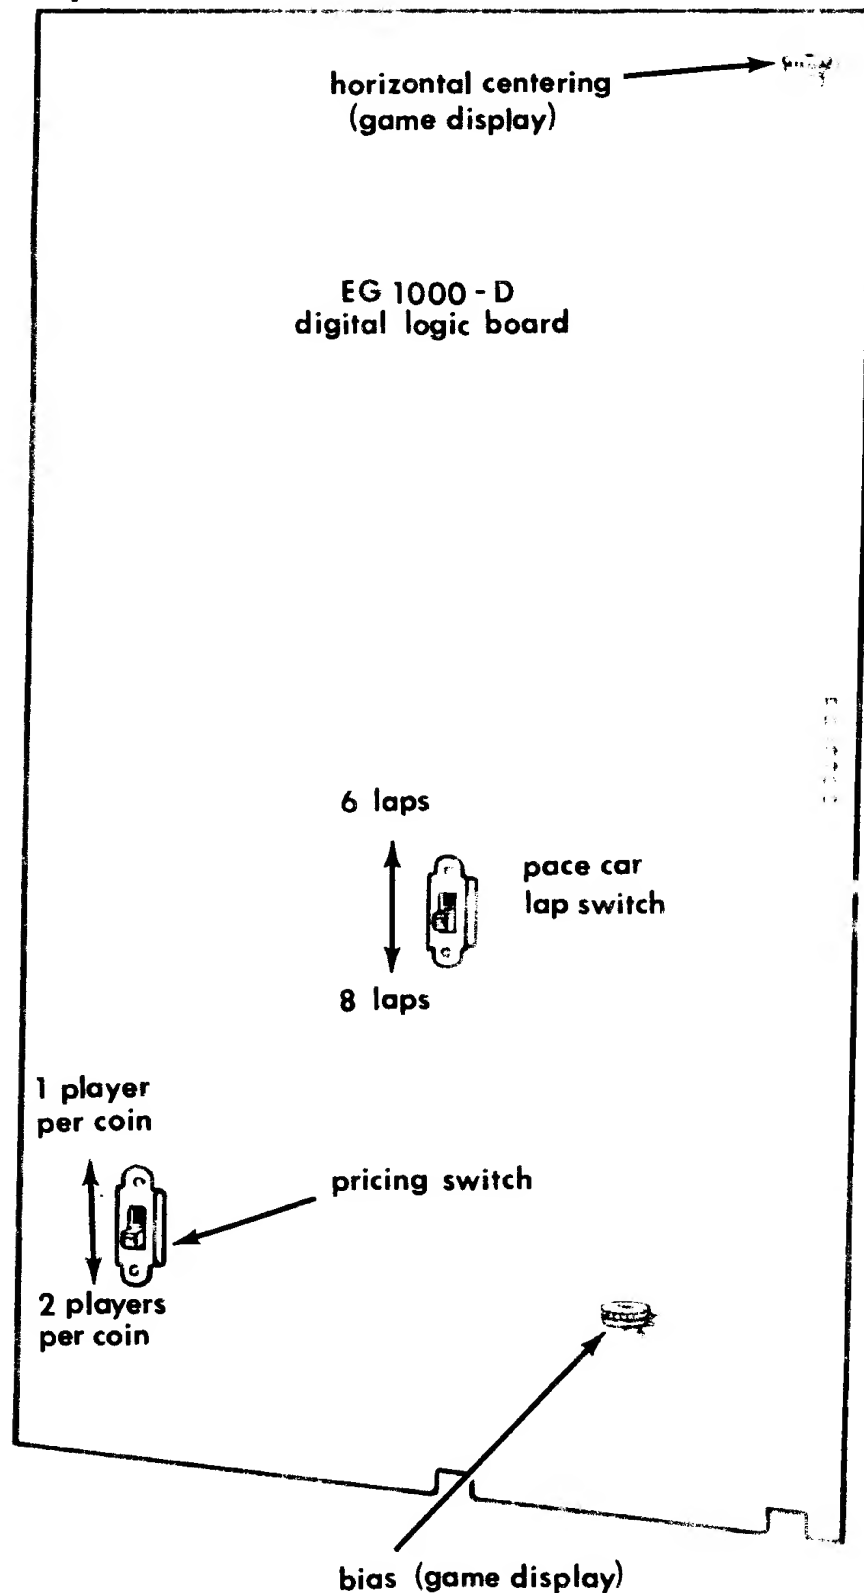

Figure 8
The pricing switch on the EGI000-D digital logic board is shown set for "Two Players per Coin" (see Figure 8). By setting the Pricing Switch to the "One Player per Coin" position, Pricing is automatically changed.
Pace Car laps - The Pace Car may be set-up to complete Six (6) or Eight (8) laps. The Game is shipped set for Six (6) laps. To set for Eight (8) laps, the Pace Car Lap Switch on the EG1000-D Digital Logic Board must be switched to the "Eight" lap position. (See Figure 8.)
Game Display Bias Control - This control is located on EG1000-D Digital Logic Board. (Refer to Figure 8.) Adjusts horizontal and vertical sync input to the TV input. Adjust for best picture.
Game Display Centering - This control is located on EG1000-D Digital Logic Board. (Refer to Figure 8.) Centers the picture on the TV horizontally.